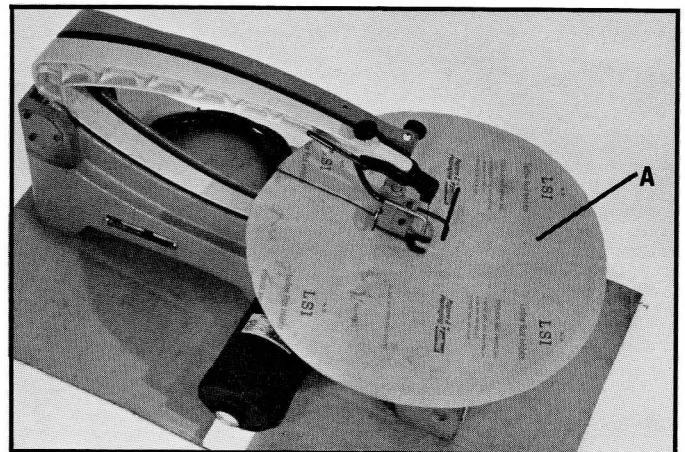

Fig. 3
Carefully unpack the saw and all loose items from the shipping carton. Remove the protective paper (A) Fig. 3 from the table surface. Clean the table with a soft cloth moistened with kerosene (do not use acetone, gasoline or lacquer thinner for this purpose). After cleaning, cover the table surface with a good quality paste wax.